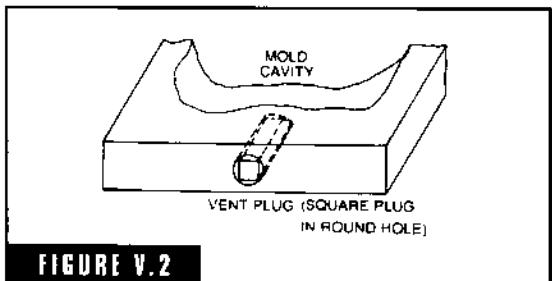

FIGURE V.2
**vent plugs** A vent made in a permanent mold by drilling a hole in the mold and plugging it with a square plug (Fig. V-2). Vent screens and slotted vents installed in metal core blowing boxes are also called vent plugs.